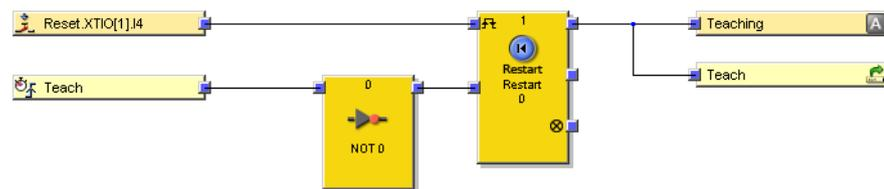

Figure 356: Configuration of the Teach function in the logic editor
- ▶ Within the logic for these stations, connect the input of the Teach pushbutton to the Teach output of the relevant station via a **Restart** function block (see figure 356, page 477).